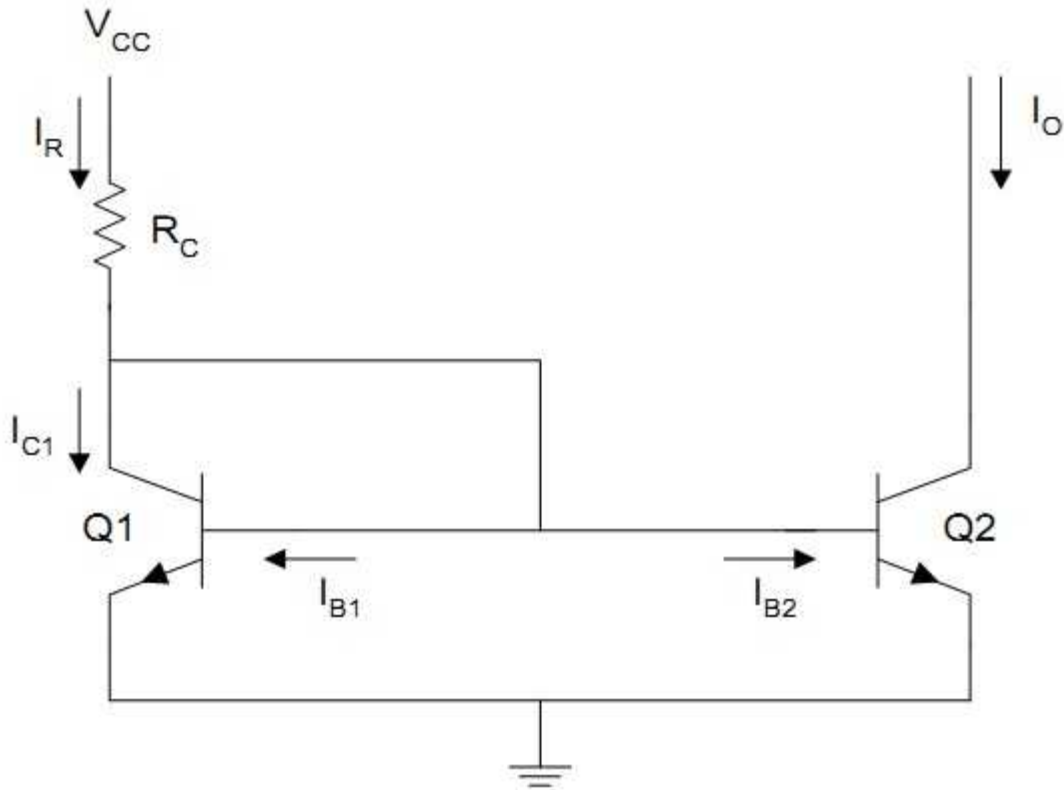

Figure 6: Simple current mirror
A simple current mirror is shown in Figure 6. The current mirror consists of two matched transistors  $Q_1$  and  $Q_2$  with their bases and emitters connected. The transistor  $Q_1$  is connected as a diode by shorting the base to its collector.
From figure 6, we observe that  $I_R = \frac{V_{CC} - V_{BE}}{R_C}$  (19)
For Figures 6 and 7, what are the percentage difference between the reference and output currents for the  $\beta_F$  from 40 to 200. Assume that for both figures,  $V_{CC} = 10$ ,  $R_{KC} = 50 \Omega$  and  $V_{VBE} = 0.7$